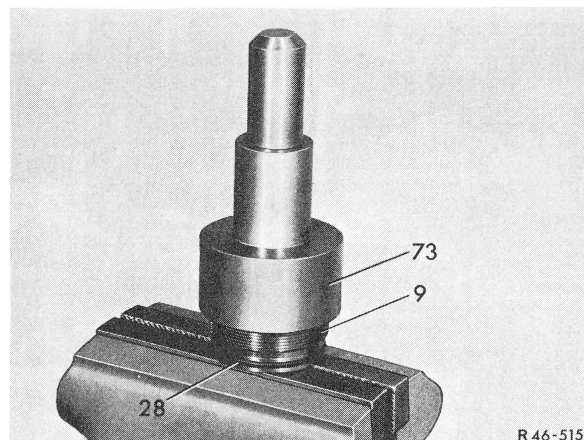

Fig. 4
5 Press radial sealing ring (26) into bearing insert (9) with installation tool (73), fill space between both sealing lips with grease and insert locking ring (27) (Fig. 4 and 5).